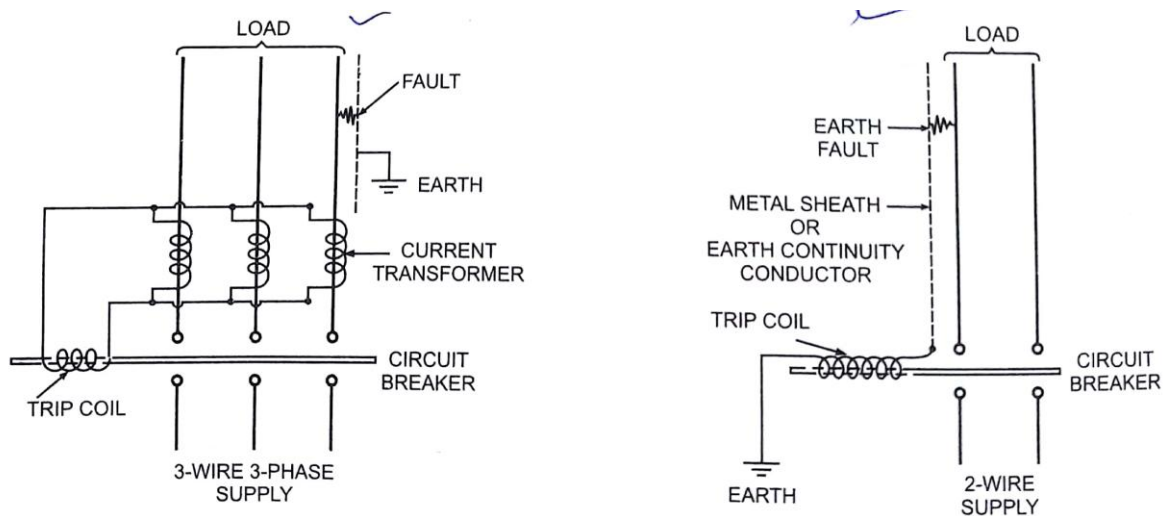

Fig.5.4: (a) Current-operated Earth-leakage Trip
- **Current operated earth-leakage circuit breaker** is used when the product of the operating current in amperes and the earth-loop impedance in ohms does not exceed 40. Where such a circuit breaker is used, the consumer's earthing terminal is connected to a suitable earth electrode. A current-operated earth leakage applied to a 3-phase,3-wire circuit is shown in Fig.5.4. In normal conditions when there is no earth leakage the algebraic sum of currents in the three coils of the current transformers (CTs) is zero, and no current flows through the trip coil. In case of any earth leakage, the currents are unbalanced and trip coil is energized and thus the circuit breaker is tripped.
- **Voltage-operated earth leakage circuit breaker** is suitable for use when the earth-loop impedance exceeds the values applicable to fuses or excess-current circuit breaker or to current-operated earth-leakage circuit breaker. Such an earth-leakage trip in a 2-wire circuit is shown in Fig.5.4. When the voltage between the earth continuity conductor (ECC) and earth electrode rises to a sufficient value, the trip coil will carry the required current to trip the circuit breaker.